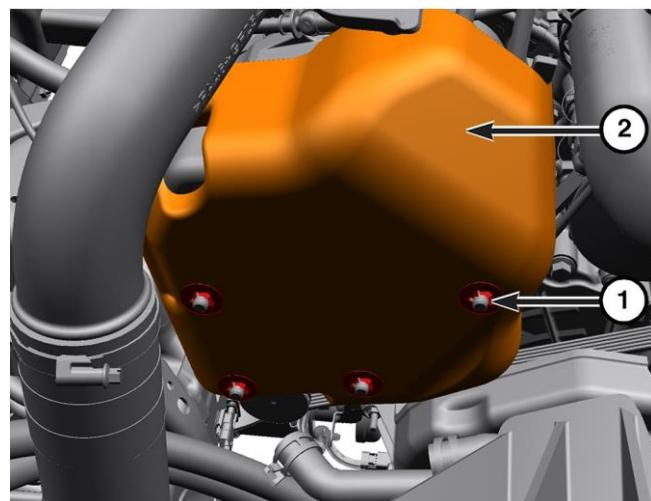

Figure 59 – HPFP Cover
2. Remove the retainers (1) that secure the cover (2) for the high-pressure fuel pump (Figure 59).